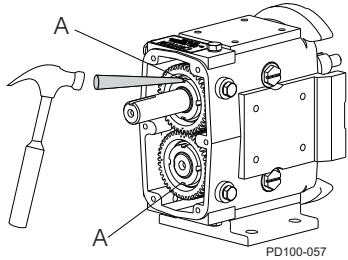

Figure 93 - Bend Locking Tab
7. Bend the locking tab (Figure 93, item A) on the lock washers into the locking nut slots, securing the gear locknut into place.